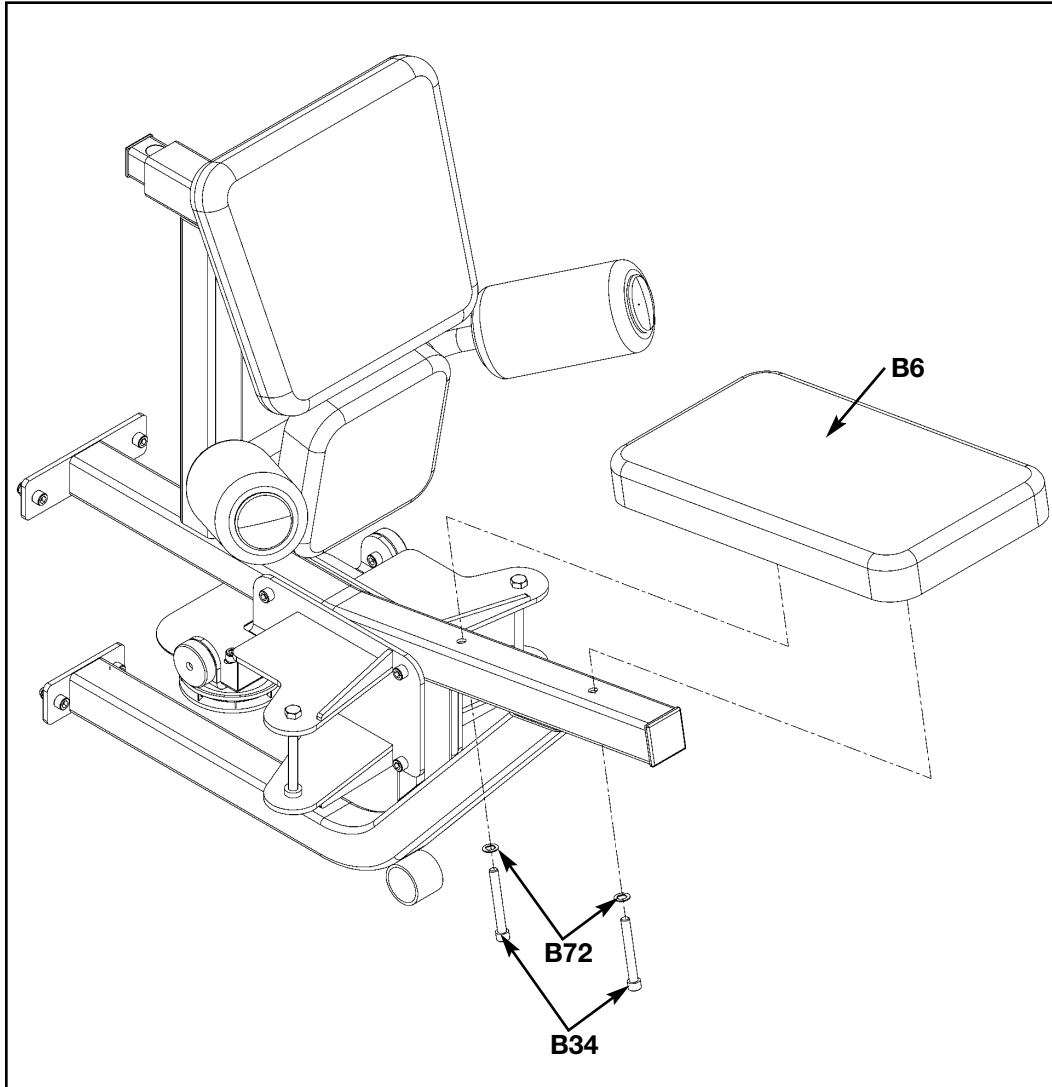

Figure 15
- H. Locate seat cushion (#B6), two SHCS .375-16 x 3 (#B34) and two internal tooth lockwashers (#B72). See Figure 15.
- I. With seam in back, install seat cushion as shown in Figure 15.